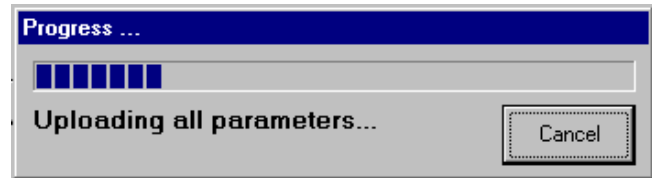

Fig. 13.11
10. A Progress meter appears and continues to display until the backup is complete. See Fig. 13.11.
NOTE: The backup can be terminated by pressing Cancel on the Progress meter (Fig. 13.11).